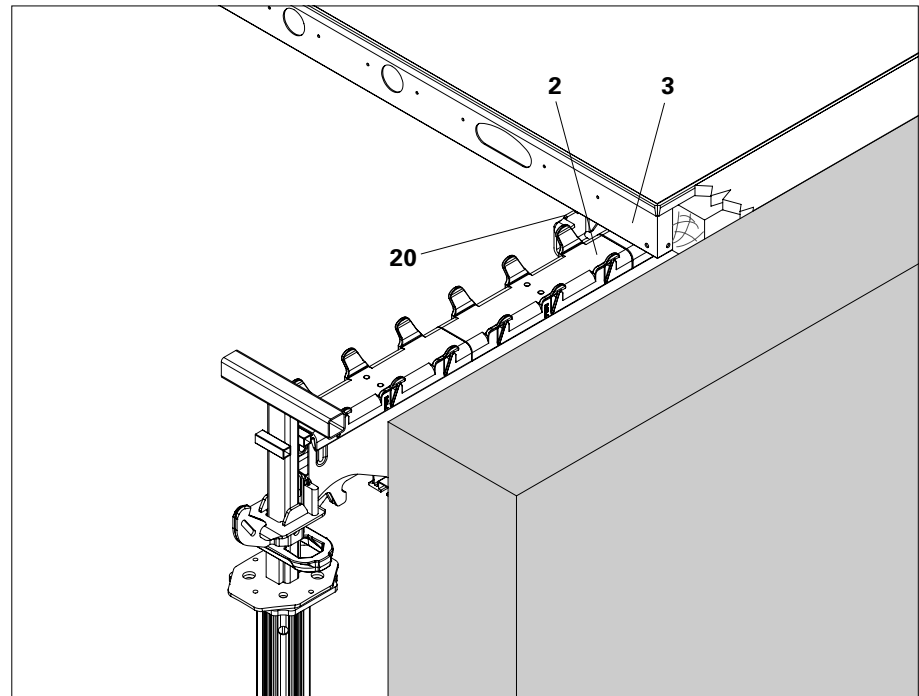
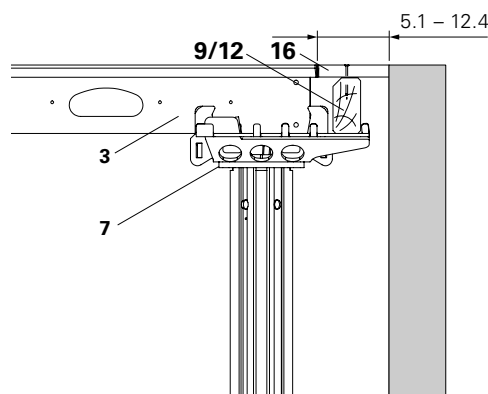

Fig. A5.35
Fig. A5.36
2. Nail Filler Timber SPH (12) or timber (13) up to max. 6 cm on the panel. (Fig. A5.35) Screw Filler Timber SPH (12) or timber (13) up to max. 6 cm on the panel. (Fig. A5.36)
3. Install formlining (16) and secure with nails.
1. Position Combihead SCK (7) with cantilever in the direction of the infill.
2. Install Panel (3).
3. Install Edge Beam SRT-2 (9) or Filler Timber SPH (12) in the Combihead (7).
4. Install formlining (16) and secure with nails. (Fig. A5.36)